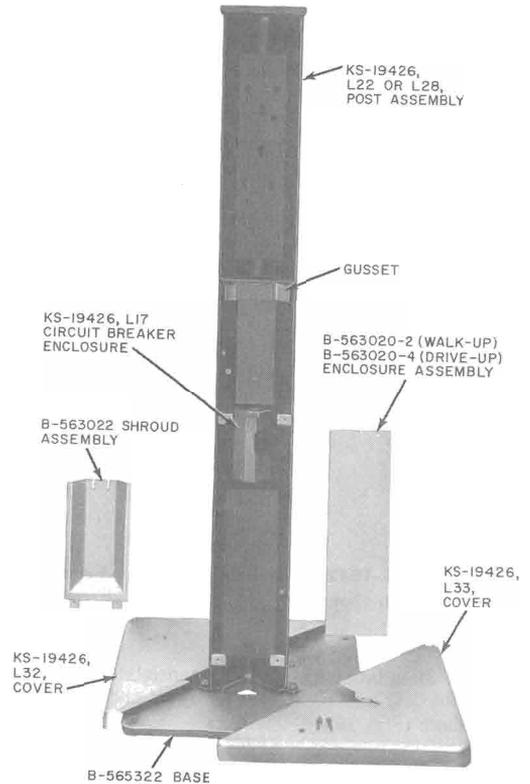

Fig. 9—Typical Pedestal Kit
2.13 A black angular steel post, with an aluminum cover on the flat front face, is available for walk-up or drive-up service (Fig. 9).
- 3.10** Loosen the tamperproof screws and remove shroud from the post(s) (Fig. 9).
- 3.11** Remove enclosure assembly (Fig. 9) from the post(s) by removing two 10-24 by 3/8-inch Phillips FHMS.